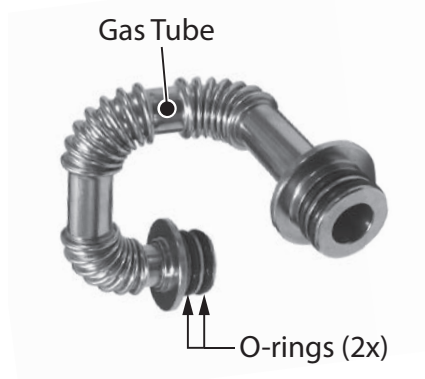

Figure 107 - Install venturi O-rings to gas tube
19 Locate the two (2) O-rings provided in the kit. Remove the two (2) old O-rings from gas tube (venturi mating side) and install the two (2) new O-rings as shown in Figure 107.